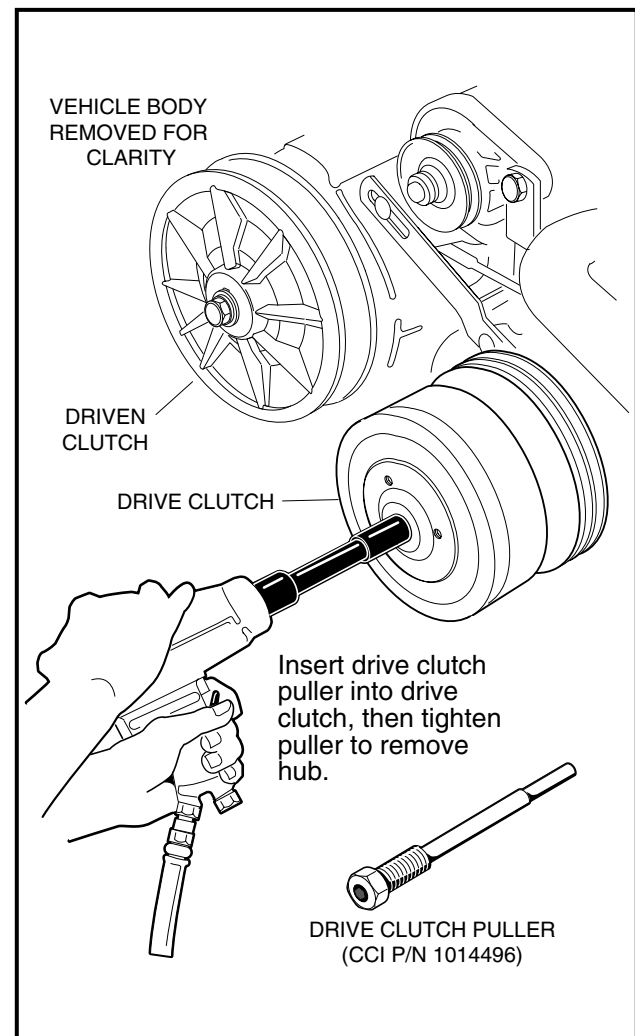

Figure 17-4 Drive Clutch Removal
9. Using a 1/2-inch socket, tighten the clutch puller tool. The drive clutch will release free of the crankshaft **(Figure 17-4, Page 17-6)**.